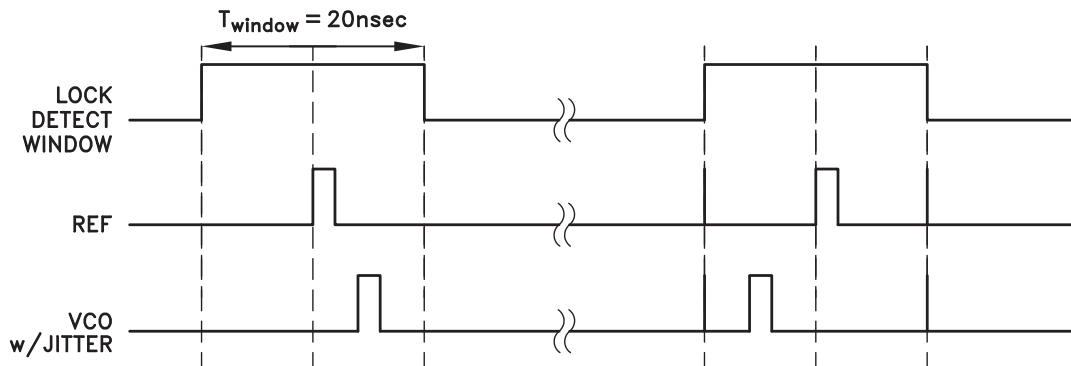

Figure 11. Normal Lock Detect Window
The Lock Detect circuit in the HMC700LP4(E) places a one shot window around the reference. The one shot window may be generated by either an analog one shot circuit or a digital one shot based upon an internal ring oscillator. Clearing *ringosc_oneshot_sel* (Table 14) will result in a fixed analog based nominal ± 10 nsec window, as shown in Figure 11. Setting *ringosc_oneshot_sel* will result in a variable length window based upon a high frequency internal ring oscillator. The ring oscillator frequency is controlled by *ringosc_cfg*. The resulting lock detect window period is then generated by the number of ring oscillator periods defined in *oneshot_duration*, both in (Table 14).
The Lock Detect Flag is output to LD_SDO pin according to *pdf_LD_opEn* (Table 18) or to the internal SPI read only register if *locked* = 1 (Table 21). Setting *pdf_LD_opEn* will display the Lock Detect Flag on LD_SDO except when a serial port read is requested, in which case the pin reverts temporarily to the Serial Data Out pin, and returns to the Lock Detect Flag after the read is completed. Timing of the Lock Detect and Serial Data Out functions are shown in Figure 11.